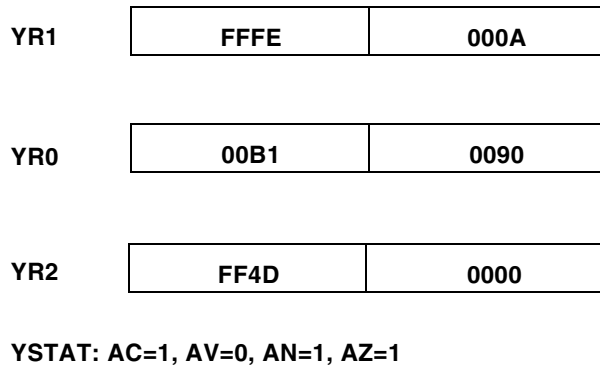

Figure 8-2. Dual Short, Single Register, Unsigned Saturating Subtraction in Compute Block Y
YSR2 = R1 - R0 (SU);; *see Figure 8-2*